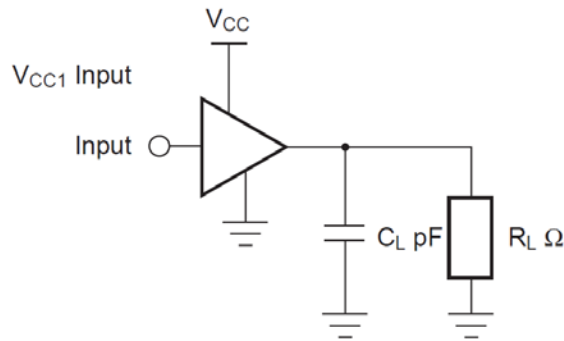
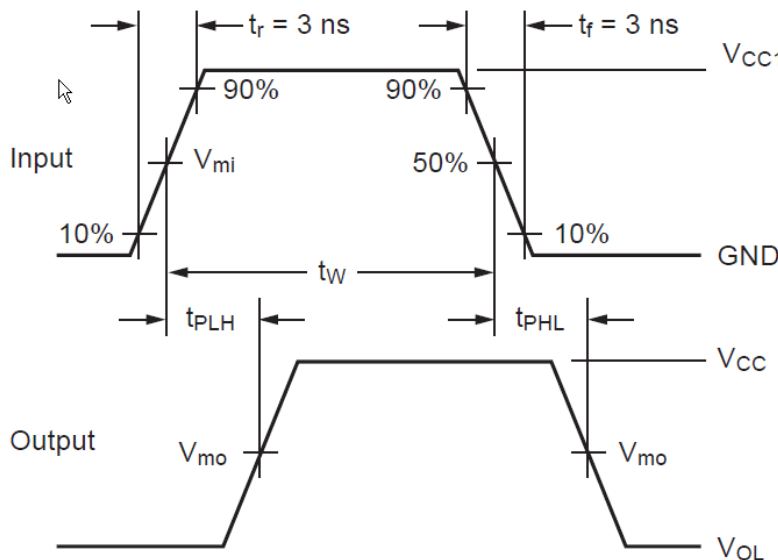

Figure 3. AC Test Circuit
Figure 4. Waveform for Inverting and Non-Inverting Functions
| t _{PHL} , t _{PLH} | Propagation Delay Output Translation V _{CC} (V)=1.0 | C _L =15pF, R _L =1MΩ | 1.0 | | 28.0 | | | | ns | Figure 3, Figure 4 |
| t _{PHL} , t _{PLH} | Propagation Delay Output Translation V _{CC} (V)=1.2 | C _L =15pF, R _L =1MΩ | 1.0 | | 19.0 | | | | ns | Figure 3, Figure 4 |
| t _{PHL} , t _{PLH} | Propagation Delay Output Translation V _{CC} (V)=1.5 | C _L =15pF, R _L =1MΩ | 1.0 | | 15.0 | | | | ns | Figure 3, Figure 4 |
| t _{PHL} , t _{PLH} | Propagation Delay Output Translation V _{CC} (V)=1.8 | C _L =15pF, R _L =1MΩ | 1.0 | | 14.0 | | | | ns | Figure 3, Figure 4 |
| t _{PHL} , t _{PLH} | Propagation Delay Output Translation V _{CC} (V)=2.5 | C _L =15pF, R _L =1MΩ | 1.0 | | 12.0 | | | | ns | Figure 3, Figure 4 |
| t _{PHL} , t _{PLH} | Propagation Delay Output Translation V _{CC} (V)=3.3 | C _L =15pF, R _L =1MΩ | 1.0 | | 11.0 | | | | ns | Figure 3, Figure 4 |
| t _{PHL} , t _{PLH} | Propagation Delay Output Translation V _{CC} (V)=1.0 | C _L =30pF, R _L =1MΩ | 1.0 | | 34.0 | | | | ns | Figure 3, Figure 4 |
| t _{PHL} , t _{PLH} | Propagation Delay Output Translation V _{CC} (V)=1.2 | C _L =30pF, R _L =1MΩ | 1.0 | | 22.0 | | | | ns | Figure 3, Figure 4 |
| t _{PHL} , t _{PLH} | Propagation Delay Output Translation V _{CC} (V)=1.5 | C _L =30pF, R _L =1MΩ | 1.0 | | 16.0 | | | | ns | Figure 3, Figure 4 |
| t _{PHL} , t _{PLH} | Propagation Delay Output Translation V _{CC} (V)=1.8 | C _L =30pF, R _L =1MΩ | 1.0 | | 15.0 | | | | ns | Figure 3, Figure 4 |
| t _{PHL} , t _{PLH} | Propagation Delay Output Translation V _{CC} (V)=2.5 | C _L =30pF, R _L =1MΩ | 1.0 | | 13.0 | | | | ns | Figure 3, Figure 4 |
| t _{PHL} , t _{PLH} | Propagation Delay Output Translation V _{CC} (V)=3.3 | C _L =30pF, R _L =1MΩ | 1.0 | | 12.0 | | | | ns | Figure 3, Figure 4 |